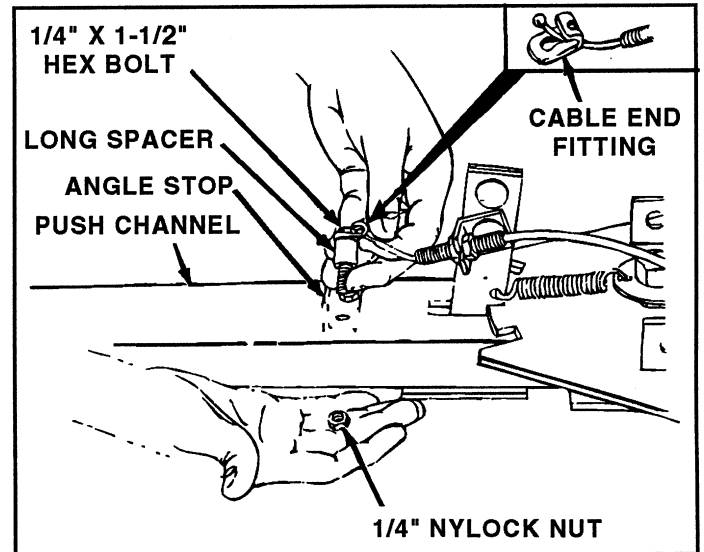

FIGURE 8
- Attach cable end fitting and long spacer to right hand hole in angle stop and channel using 1/4" x 1-1/2" hex bolt and 1/4" Nylock nut. **Tighten both 1/4" Nylock nuts that secure the angle stop to the channel.** See figure 8. **NOTE: Keep cable and fitting in alignment with cable mount bracket when tightening nuts.**